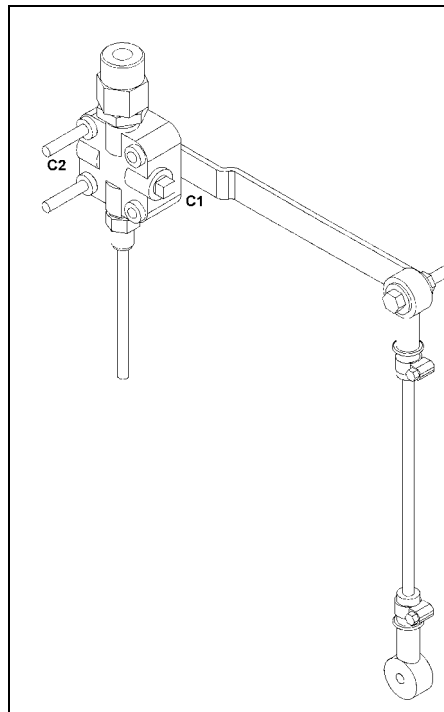

FIGURE 6
9. Assemble overtravel lever with link using bolt, washer and nut. Insert golf tee in the provided holes located in overtravel lever and valve to lock them together, using the adjusting nuts on the bent rod, try to keep the overtravel lever as horizontal as possible, reconnect the lines. Use the slot on bracket for final adjustment. Refer to figure 6 for a view in perspective of assembly.